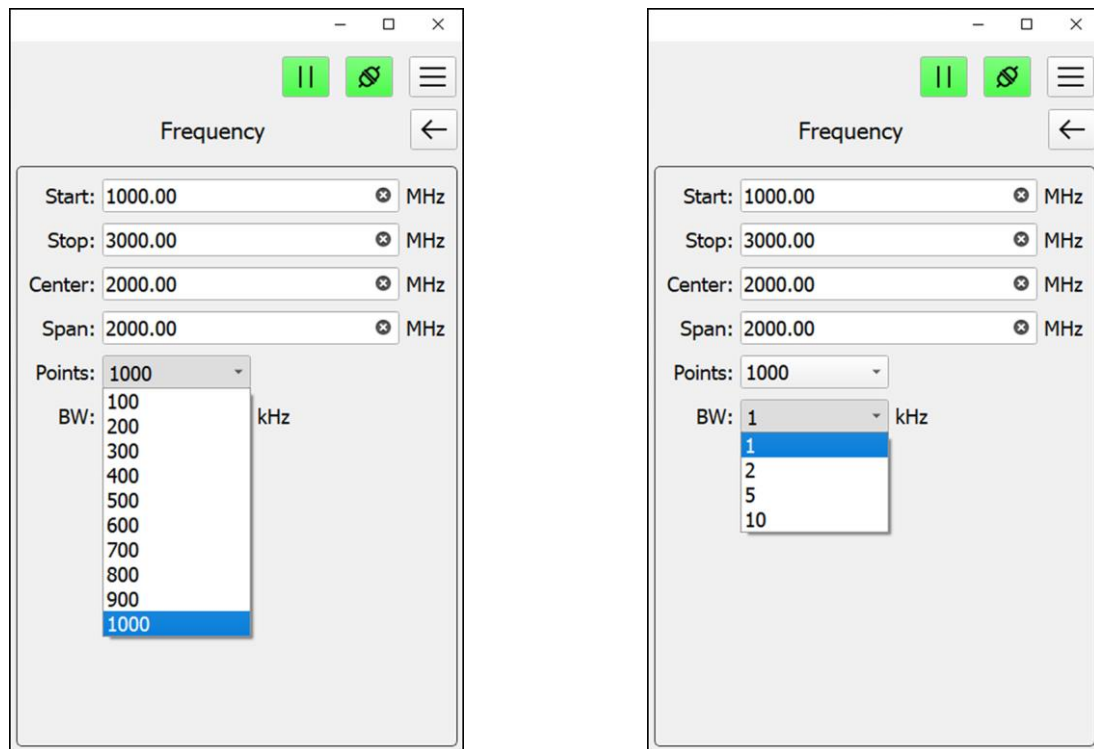

Figure 5.2 - Setting the frequency reference parameters
5.2.1. To set the frequency reference, enter the «**Frequency**» section of the main menu (Figure 5.2)